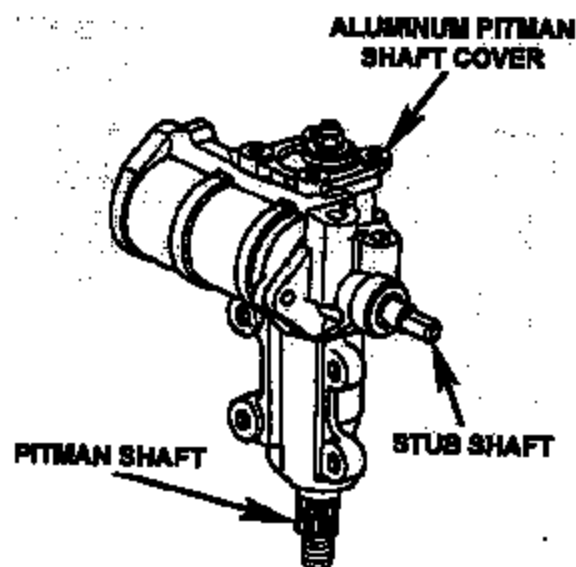

Figure 4
- c. Using a 5/8 inch open-end wrench, slowly turn the stub shaft from stop to stop and count the number of turns required (Figure 4).